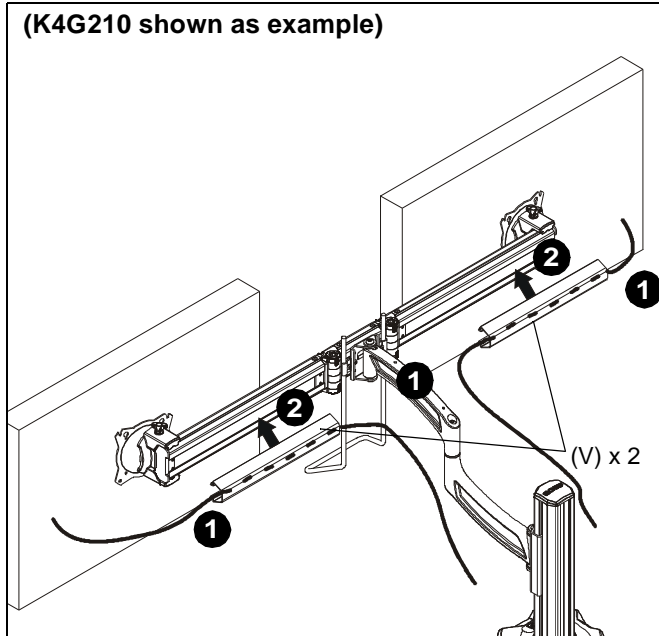

Figure 24
1. Route cables from display through cable management covers (V) as desired. (See Figure 24)
2. Install cable management covers (V) onto array arms (X and Y). (See Figure 24)